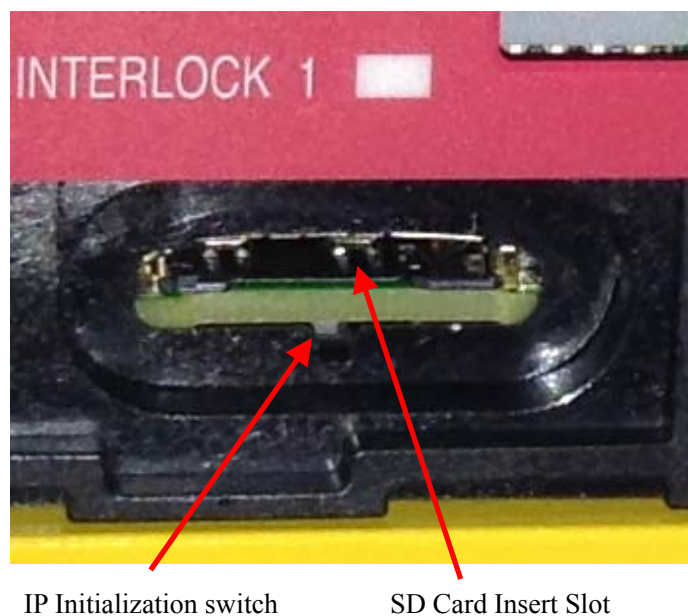

Figure 3-27 IP initialization switch
- Prepare a thin strong pin for IP initialization process. IP initialization switch is located exactly below the SD card Slot (Refer to figure 3-27)